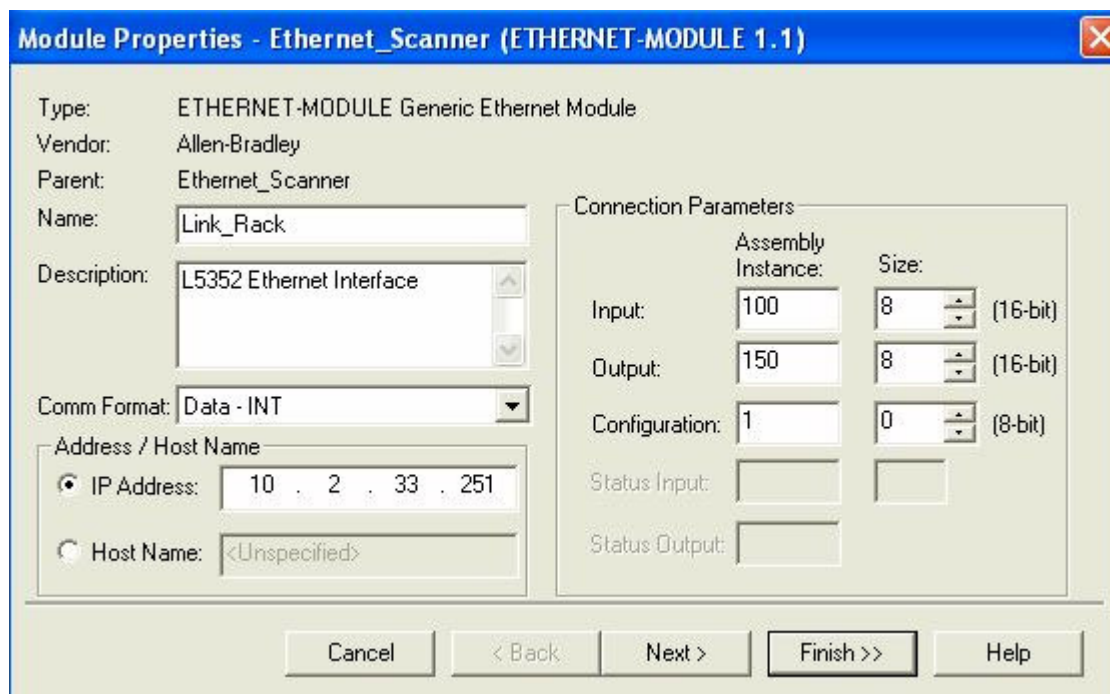

Figure 11. Module Addressing
4. This window allows you to name the module and to set network address, set data type (data-int), and set data size. The input Assembly Instance is 100 and the Size, 8, is the number of words configured in the Assembly Instance sent from the Link.. The output Assembly Instance is 150 and the Size, 8, is the number of words you are sending to LINK. The HMS Anybus Configuration assembly instance is 1 and the size is 0. The Comms Format is set for “DATA-INT” to allow transferring 16 bit words. Refer to Figure 11.